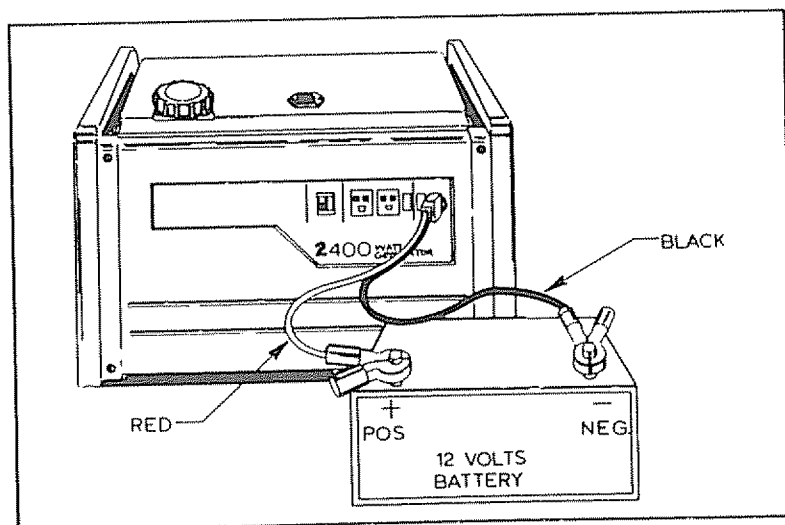

Figure 2-3. Charging a Battery
2.6- CHARGING A BATTERY (Figure 2-3)